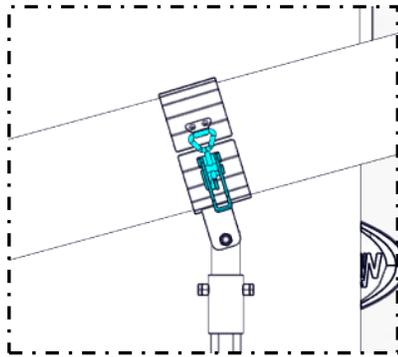

Figure 4.12
- A) Open the over-center latch on the feed auger support that holds the feed auger to the mill trailer (Figure 4.12).